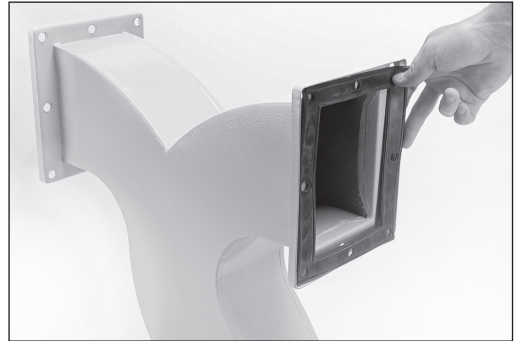

Fig. 7
- a. Place a gasket, ridged side outward, against the lip of one of the extractor chute outlets (Fig. 7).
- b. Identify the collection bag duct (C) that aligns with both the extractor chute outlet and the lower support rod when the rubber strip is located around the lower lip of the duct.